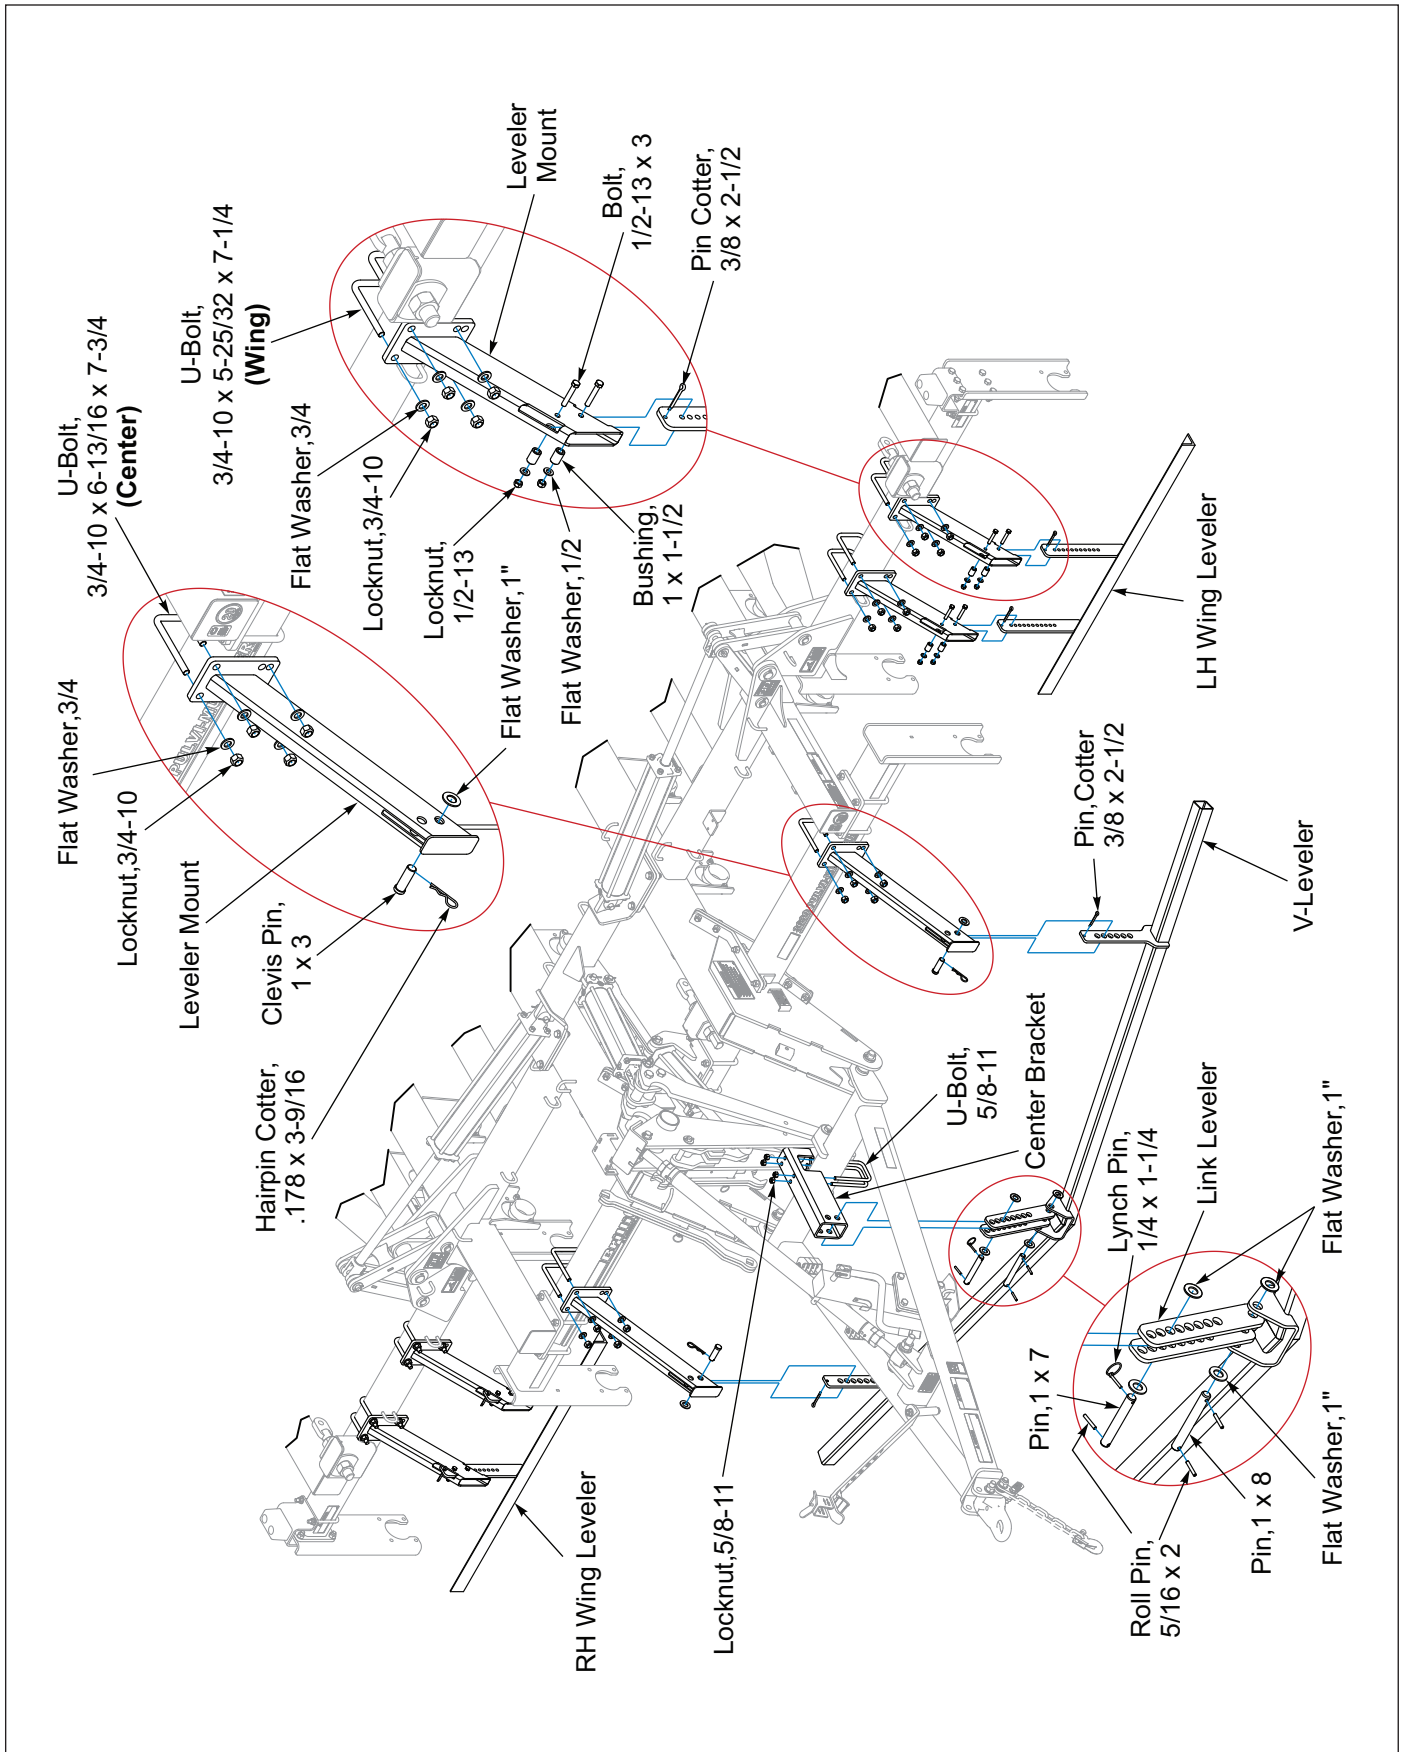

Figure 2-81: V-Leveler Installation
1. Place the cutout of the V-Leveler Bracket on top and center it on the Drawbar Rear Cross Tube. Secure with 5/8-11 U-Bolts and Locknuts. **See Figure 2-81.**
1. Attach the Leveler Mounts to the Front Wing Frame Tube with 3/4-10 x 5-25/32 x 7-1/4 U-Bolts, Flat Washers and Locknuts. **See Figure 2-81.**